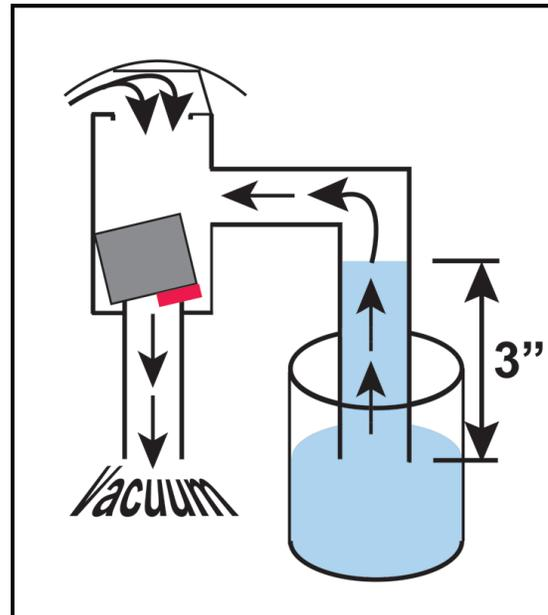

Figure 2
In the Foundation's *Manual of Cross-Connection Control, Ninth Edition*, Section 10.2.5.3.5 the AVB must undergo a test which entails fouling the check seat with a specifically sized wire, then applying various vacuum conditions to the inlet of the unit. On the outlet of the AVB is a clear tube, which extends down into a vessel of water. See Figure 2. When the various vacuum levels are applied, the water in the clear tube is permitted to rise no more than a maximum of three (3) inches. Should it rise more than three inches, this is cause for rejection. The establishment of the three-inch level was experimentally derived many years ago as a practical level of performance.